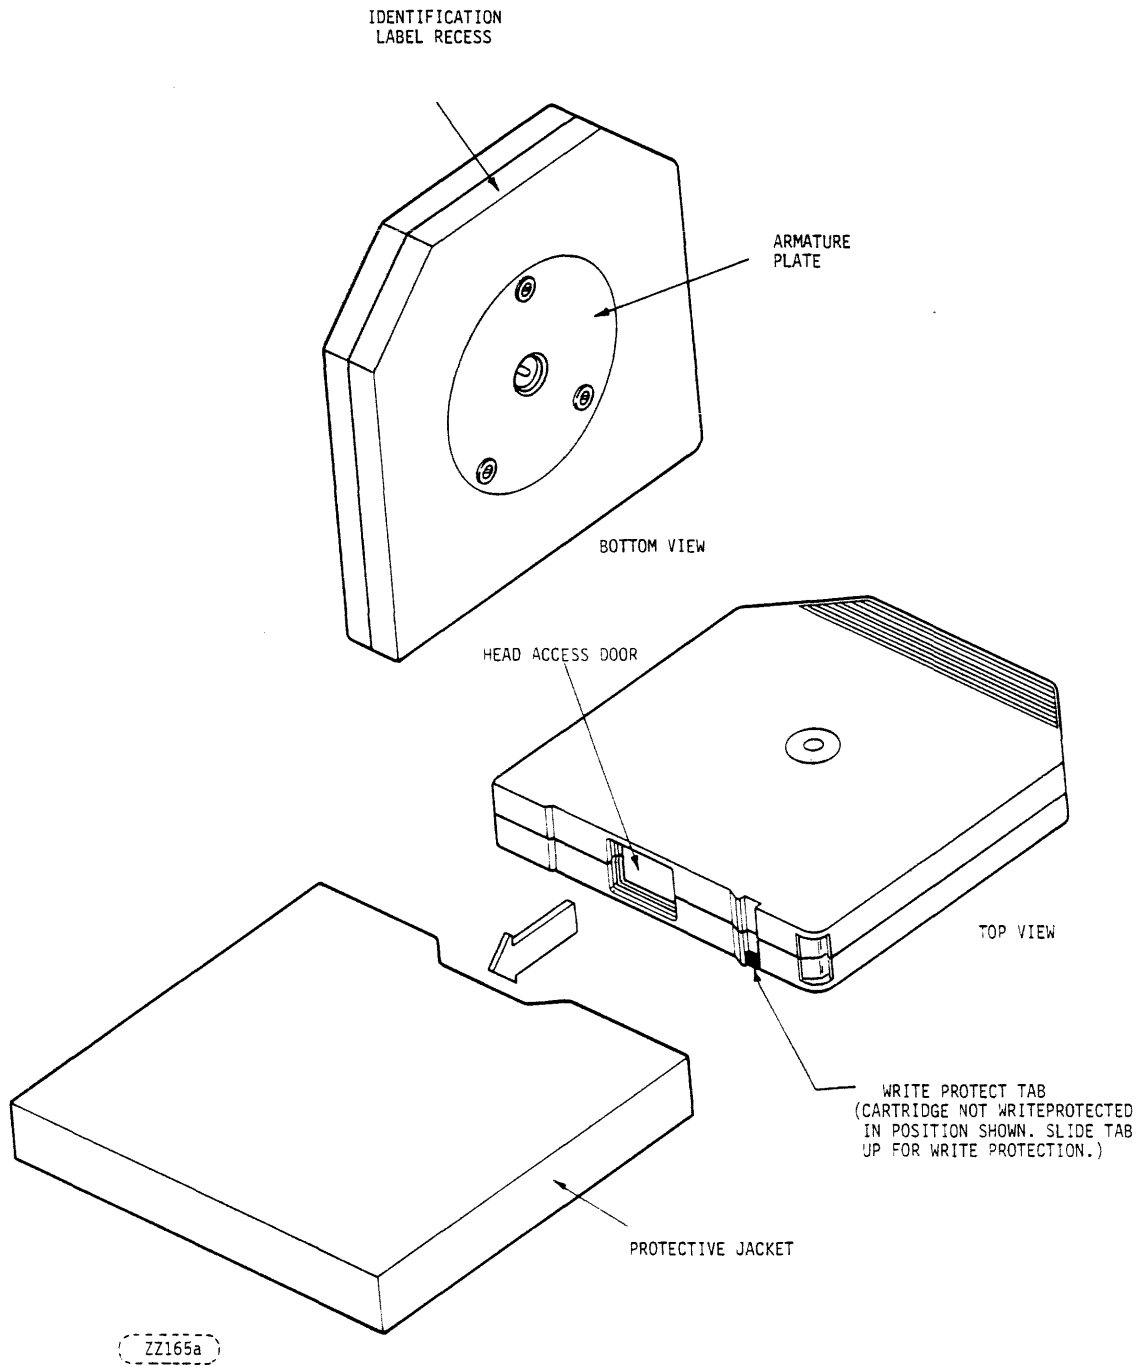

FIGURE 2-3. DISK CARTRIDGE SHOWING PROTECTIVE JACKET AND WRITE PROTECT TAB
1. Prepare disk cartridge by sliding write protect tab to the "up" position in slot (see Figure 2-3).
1. The cartridge should be stored in its protective jacket when not in the disk receiver, see Figure 2-3.